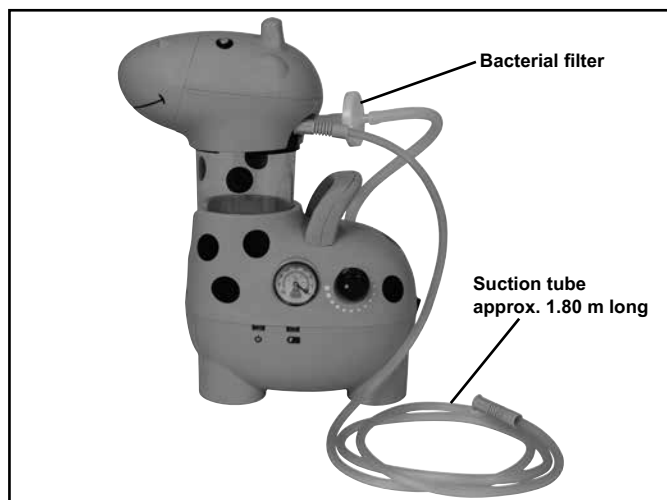

Figure 8
**The following consumables must be replaced in accordance with the instructions given in Section 6.1 (Figure 8):**